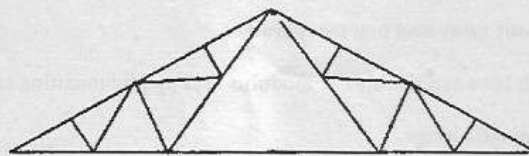

Fig. 1
- (b) A fink roof truss is proposed to be constructed at Madurai. The size of the building is 18 x 40 m. The pitch of the roof is $\frac{1}{4}$. The trusses are spaced at 4m c/c. use G.I. sheeting. The height of the roof above the ground level is 12m. Estimate the dead, live and wind loads acting on the roof. The configuration of the girder is given in Fig. 1.